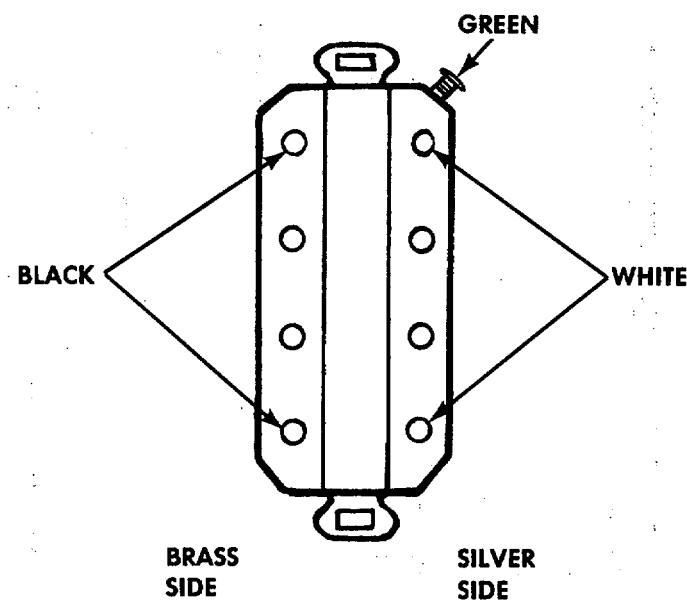
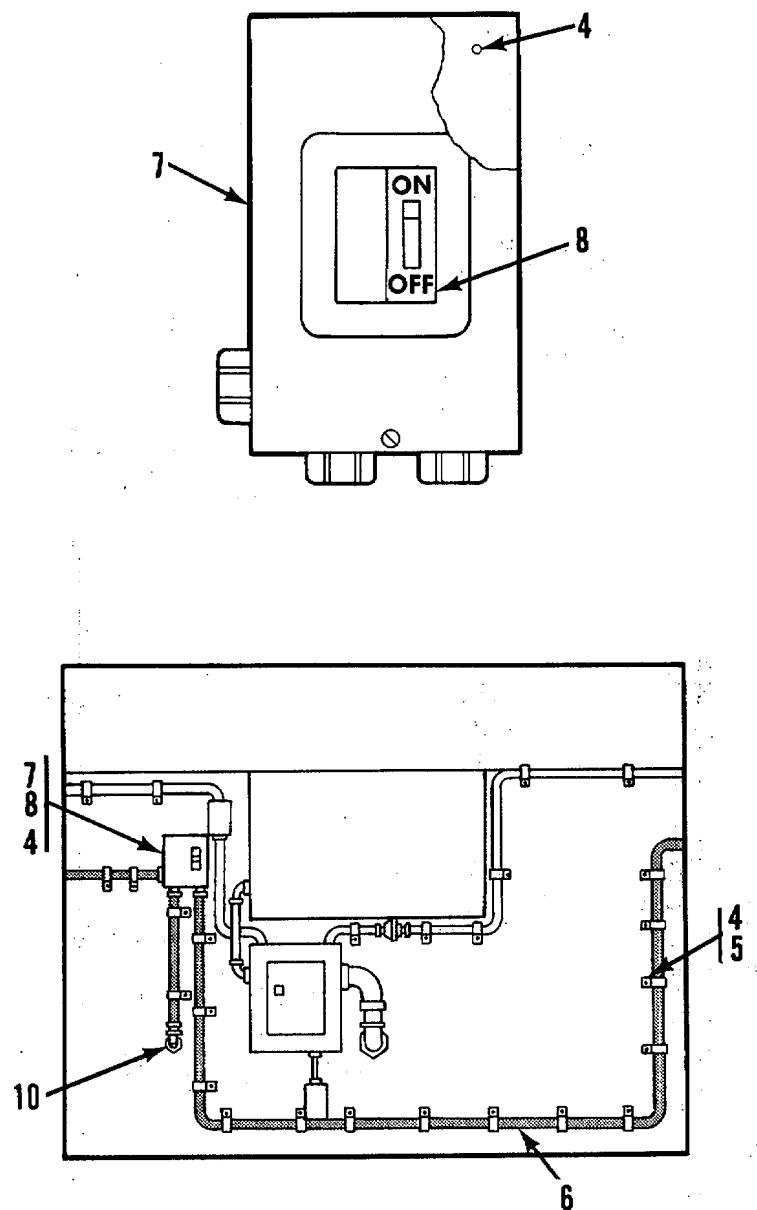

Figure 2 60 Hertz 115 Volt AC Receptacle Wiring.
Figure 4. Front Van Interior
- (2). (See figure 2 and Wiring Diagram, figure 6).
- (5) Secure receptacle (2) into junction box (1).
- (6) Install cover (3) on junction box (1).
**2-2. QO Load Center and Breaker Removal and Installation (figure 4)**
- (1) Remove cover screw and cover from load center (7).
- (2) Disconnect left hand and bottom wires from breaker (8).
- (3) Loosen compression nuts on conduits (6) and pull conduits away from wall until-wires are clear of load center.
- (4) Pull out breaker (8).
- (5) Remove three rivets (4) securing load center (7) to front wall.